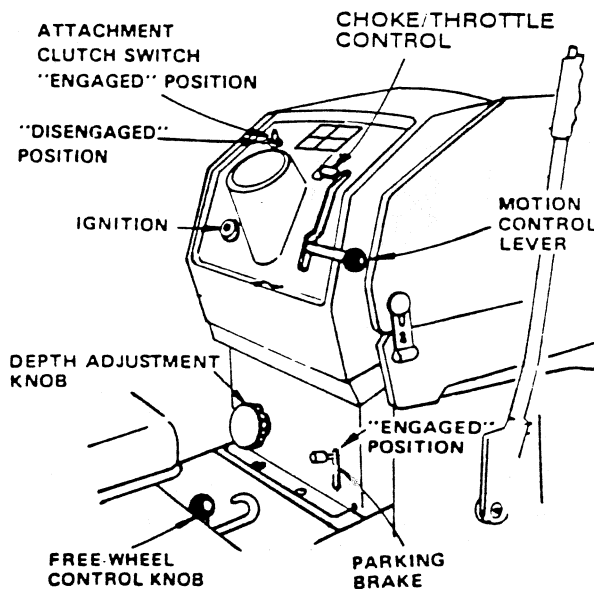

FIGURE 36
Your 38" Mower installs without the use of tools. Raise Lift Lever to its highest position. Turn Depth Adjustment Knob to lowest position (Fig. 36).
### DEPTH ADJUSTMENT (Fig. 36)
1. Place Attachment Clutch Switch in "DISENGAGED" position (Fig. 36).
5. Use Lift Lever to lower mower into cutting position. Start mowing in the slow speed and increase speed as ground conditions will permit. Average cutting height is approximately 2-1/2 to 2-3/4 inches. Height of cut can be adjusted by means of the Depth Adjustment Knob (Fig. 36). Moving the Knob clockwise (↻) raises the mower (Fig. 36). Moving the knob counterclockwise (↺) lowers the mower.